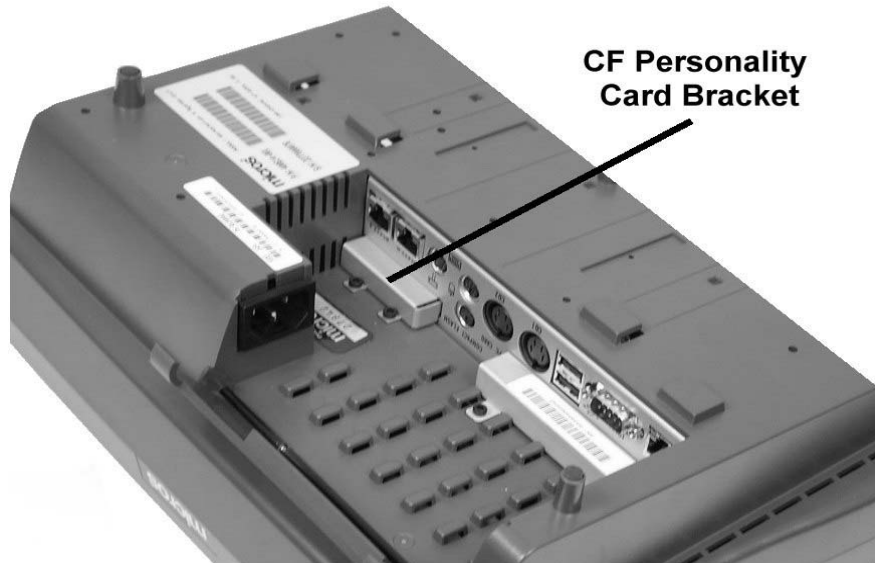

Figure 3-12: KWS4 Personality Card Location
2. Place the inoperative unit face down on a counter surface to access the personality card bracket. Figure 3-12.